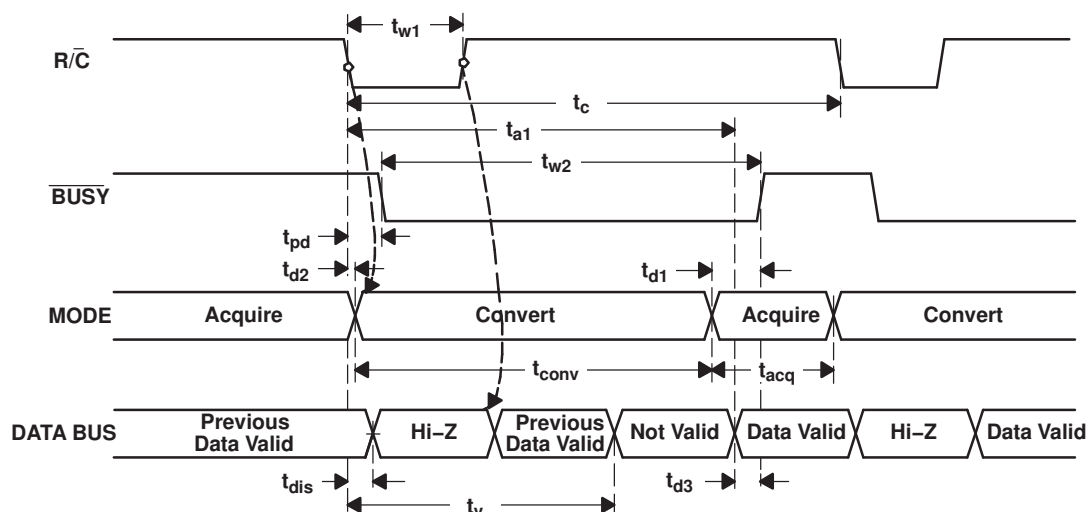
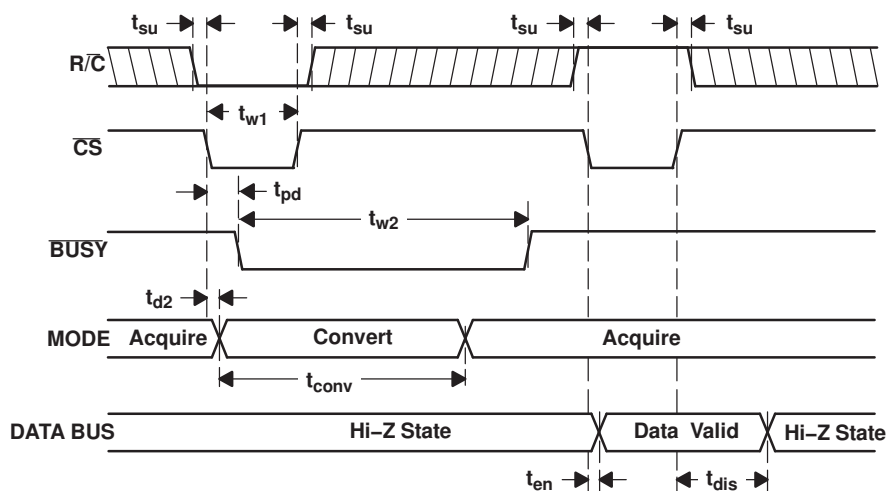
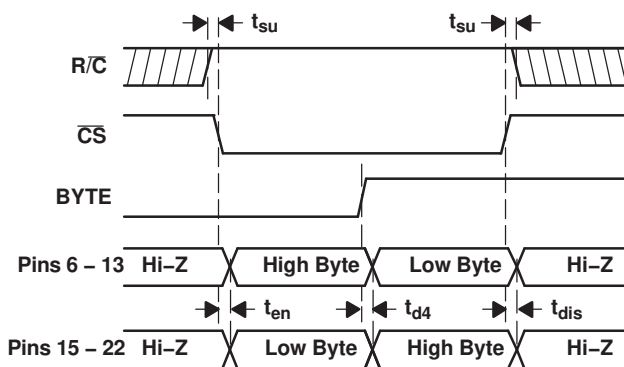

Figure 23. Conversion Timing with Outputs Enabled after Conversion ($\overline{\text{CS}}$ Tied Low)
Figure 24. Using $\overline{\text{CS}}$ to Control Conversion and Read Timing
Figure 25. Using $\overline{\text{CS}}$ and $\overline{\text{BYTE}}$ to Control Data Bus
The ADS8505 begins tracking the input signal at the end of the conversion. Allowing 4 μ s between convert commands assures accurate acquisition of a new signal. Refer to Table 1 for a summary of $\overline{CS}$, $R/\overline{C}$, and $\overline{BUSY}$ states and Figure 23 through Figure 25 for the timing diagrams.
(1) See Figure 23 and Figure 24 for constraints on data valid from conversion $n-1$.
After conversion n is completed and the output registers have been updated, $\overline{BUSY}$ (pin 26) goes high. Valid data from conversion n is available on D15-D0 (pins 6-13 and 15-22). $\overline{BUSY}$ going high can be used to latch the data. Refer to Table 3, Figure 23, Figure 24, and Figure 25 for timing specifications.
After conversion n has been initiated, valid data from conversion $n-1$ can be read and is valid up to t_2 (2.2 μ s typ) after the start of conversion n . Do not attempt to read data from t_2 (2.2 μ s typ) after the start of conversion n until $\overline{BUSY}$ (pin 26) goes high; this may result in reading invalid data. Refer to Table 3, Figure 23, Figure 24, and Figure 25 for timing specifications.
The number of control lines can be reduced by tying $\overline{CS}$ low while using the falling edge of $R/\overline{C}$ to initiate conversions and the rising edge of $R/\overline{C}$ to activate the output mode of the converter. See Figure 23.